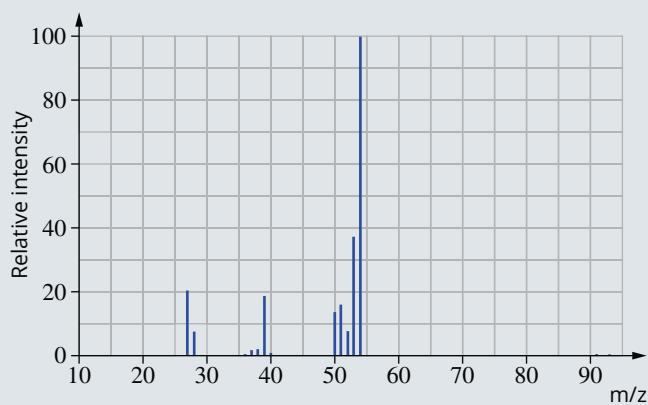

FIGURE 12.5.3 Mass spectrum of an unknown alkyne.
- 9** The mass spectrum of an alkyne is shown in Figure 12.5.3.